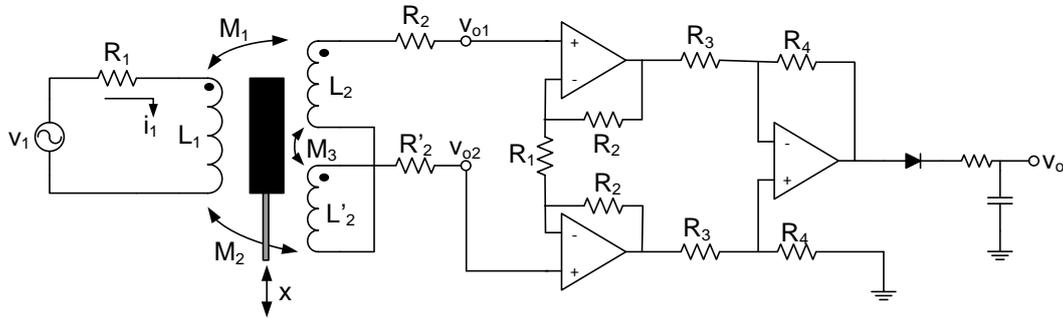

Figure 4: Single-sided rectifier with low-pass filter.
- (5p) (e) Figure 4 shows a processing circuit in which the output of the LVDT is connected to an instrumentation amplifier who in turn is connected to a single-sided rectifier with low-pass filter. Is it possible to reconstruct from the output signal v_o the direction of the movement (positive or negative direction)? (Explain your answer.)